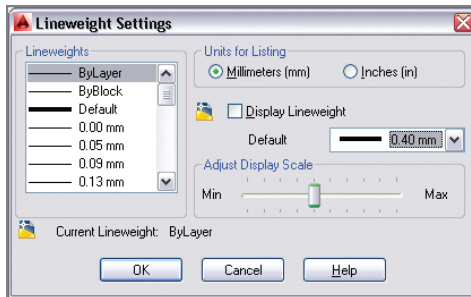

FIGURE 3.3 Adjusting the default lineweight settings
6. Right-click the Show/Hide Lineweight icon, and choose Settings from the context menu. Open the Default drop-down list, select 0.016" (or 0.40 mm) (see Figure 3.3), and click OK. The line you drew in step 4 is displayed thicker so that it's more visible against the grid.